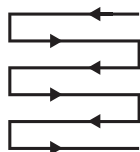

Fig. 20
- Mow in slight overlapping rows. The most effective pattern for mowing lawns is straight lines along one of the sides. This will keep the rows even and ensures that all the lawn is cut without missing any spots (Fig. 20).